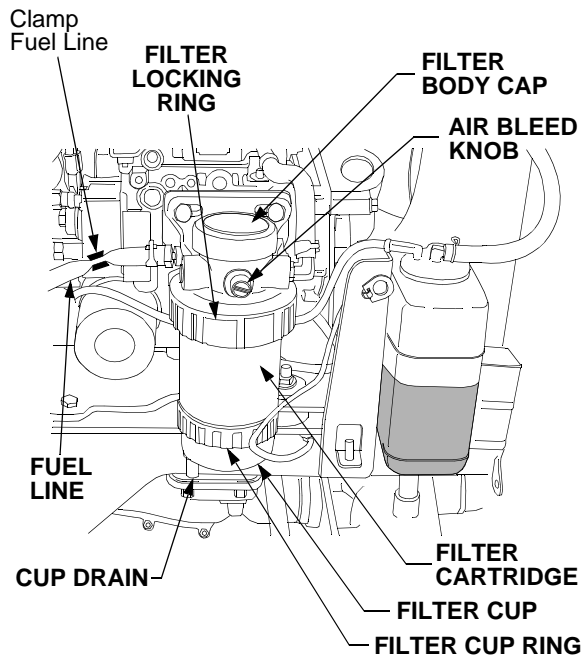

Figure 59
- Clamp the fuel line just to the rear of the fuel filter. Refer to Figure 59.
- Grasp the filter cup ring and turn counterclockwise (as viewed from the bottom of the cup) to unscrew the cup from the filter cartridge. See Figure 59.
- Turn the filter locking ring approximately 1/4 turn counterclockwise (as viewed from bottom) to unlock. Refer to Figure 59.
- Slowly turn the air bleed knob counterclockwise until fuel refills the cup and begins to seep out around the bleed knob. Turn the air bleed knob clockwise to close. Refer to Figure 59.
WARNING: Never loosen or remove the filter body cap (Refer to Figure 59). Diesel fuel will pour quickly from the loosened cap. Also, the cap O-ring may be damaged when the cap is retightened, causing continued leakage of flammable fuel.